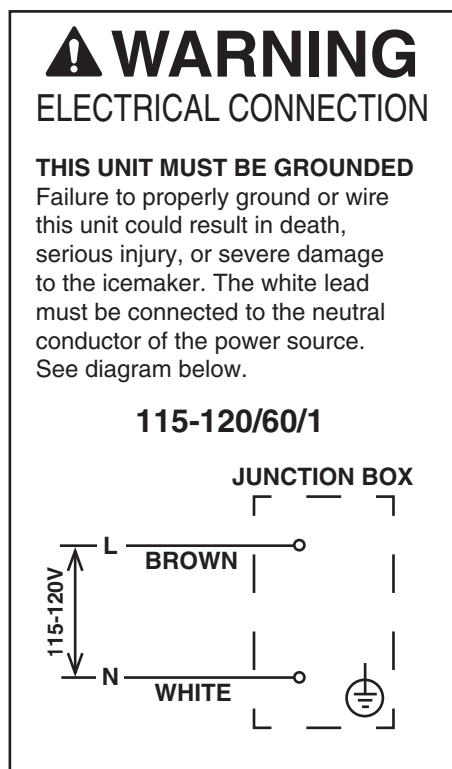

Fig. 3
4. Electrical connection must be made in accordance with the instructions on the "WARNING" tag, provided with the pig tail leads in the junction box. See Fig. 3.
- CAUTION! Miswiring may result in severe damage to the icemaker.** See Fig. 3.